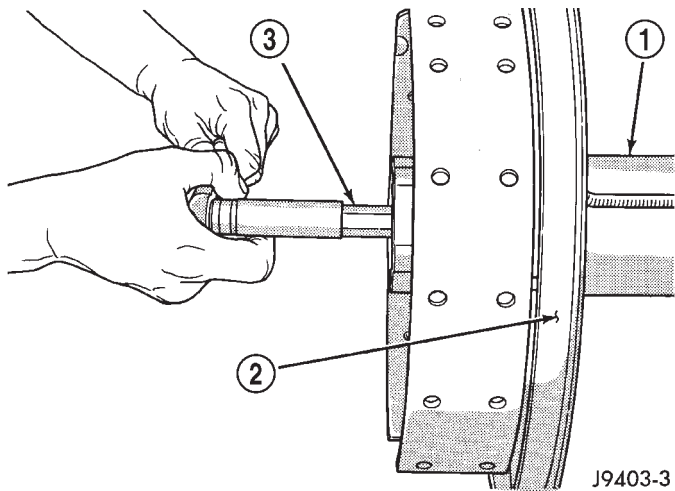

Fig. 18 Threaded Adjuster Tool
(3) Remove bearing threaded adjuster lock from each bearing cap. Loosen the bolts, but do not remove the bearing caps.
(4) Loosen the threaded adjusters with Wrench C-4164 (Fig. 18).